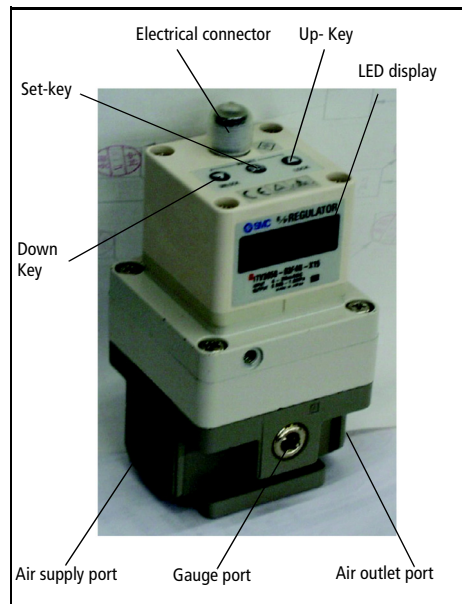

Fig 1
Push 'Up' and 'Down' keys (Fig 1) together for longer than 3 seconds. Display shows 'RES'. Release keys to reset minimum pressure, maximum pressure and switch outputs P1 & P2 to start condition.
- To set minimum pressure (display shows F-1) use up/down keys (Fig 1) and press 'Set' key (Fig 1) to 'Lock' setting.
- To set maximum pressure (display shows F-2) use up/down keys (Fig 1) and press 'Set' key (Fig 1) to 'Lock' setting.
- To set switch output 1 (display shows P-1) use up/down keys (Fig 1) and press 'Set' key (Fig 1) to 'Lock' setting.
- To set switch output 2 (display shows P-2) use up/down keys (Fig 1), and press 'Set' key (Fig 1) to 'Lock' setting.
The keys are locked after connecting power, and can not be operated. 'Loc' is indicated on Display (Fig 1) when any keys are pushed.
- Push 'Down' key (Fig 1) for longer than 2 seconds.
- Push 'Set' key (Fig 1) to unlock.
Note: To cancel push 'Up' key (Fig 1).
- Push 'Up' key (Fig 1) for longer than 2 seconds.
- Push 'Set' key (Fig 1) to lock.
Note: To cancel push 'Down' key (Fig 1).
If an abnormality is detected by the ITV2000 the LED display (Fig 1) will show 'Er' followed by a code number. Isolate the power supply and ascertain the problem. Re-instate power supply after correcting fault.